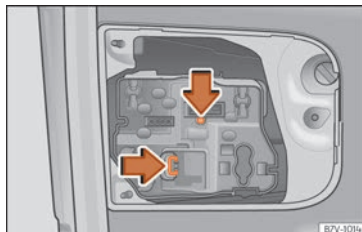

**Fig. 69** On the rear lid: remove the bulb holder.
- Press on the attachment tabs in the direction of the arrow » **Fig. 69** and pull out the bulb holder.